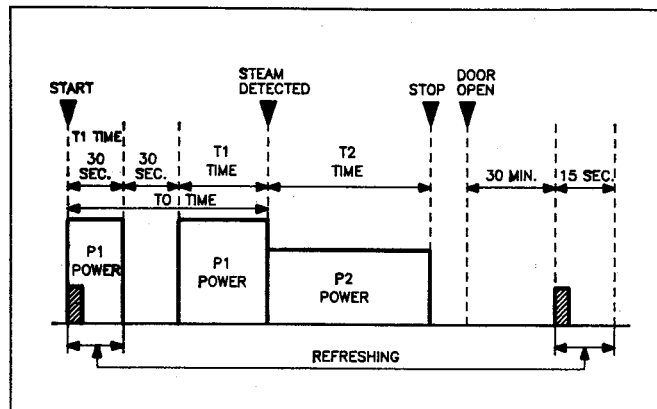

Fig. 14A
Explanation of the Auto Sensor Cooking process (See Fig. 14A)
- 1) The shaded columns in Fig. 14A indicate when the humidity sensor heater is on.
NOTE: The Auto Sensor Reheat process is same as Auto Sensor Cooking process. (See Fig. 14A)